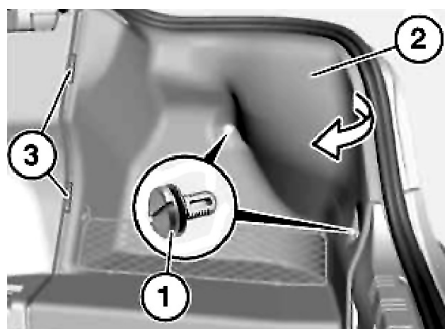

Fig. 1 Luggage compartment trim removal
3. Remove retaining clips (1), then remove luggage compartment trim (2) on righthand side panel, **Fig. 1**.